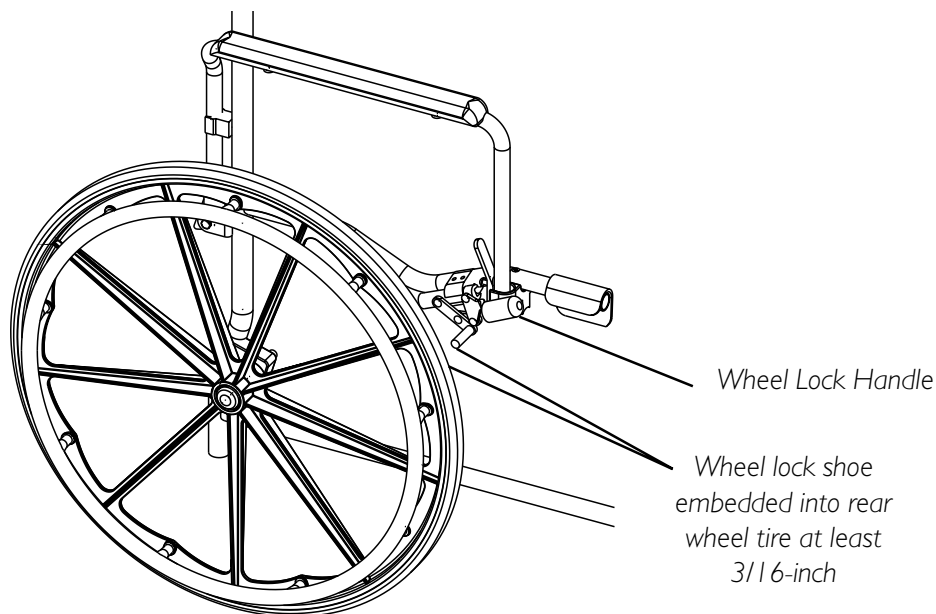

FIGURE 2 - ADJUSTING WHEEL LOCK
2. Adjust the position of wheel lock until the 3/16-inch measurement is obtained for correct wheel lock adjustment (FIGURE 2).
3. Securely tighten the two (2) socket screws.